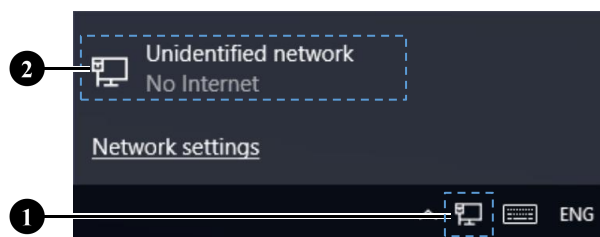

Figure 5-7 Network and Internet Settings
Step 1: Click the network icon ① in the taskbar of the device, and select "Network and Internet Settings" ② (Figure 5-7);